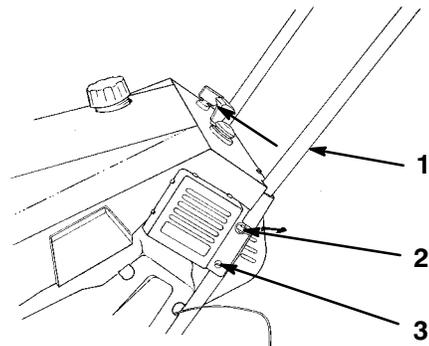

Figure 3
4. Secure the left side of the handle with a machine screw, an eyebolt, and a spacer (Fig. 3).